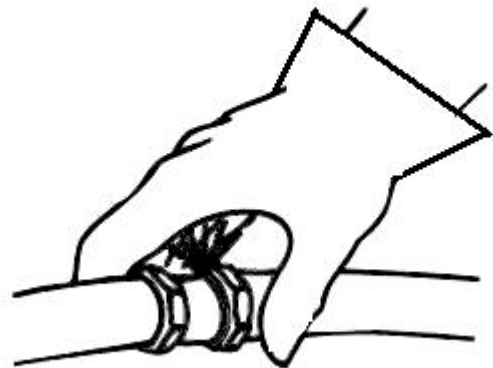

Figure 3-6
5. CAREFULLY remove the jumplines at the attachment manifold. See Figure 3-6.